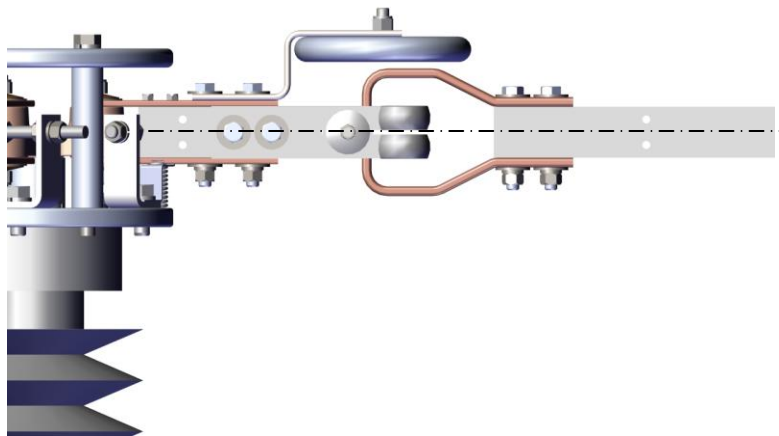

Figure 10: Blade Alignment
- 2) Ensure the centerlines of both blades are aligned. See Figure 10.